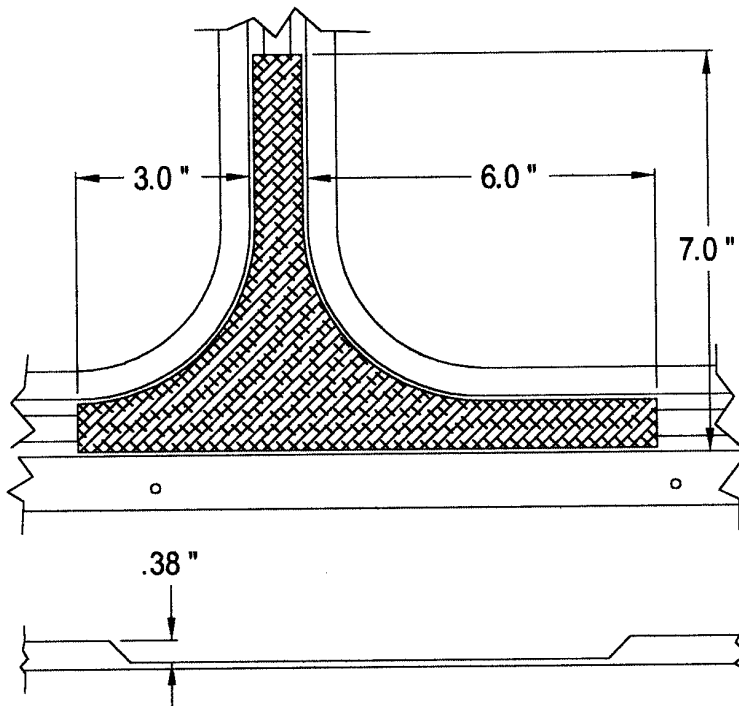

Figure 1. Keel Access Panel Modification
15. Using the fiberglass repair kit, modify the doubler on the right side keel access panel as shown in Figure 1.